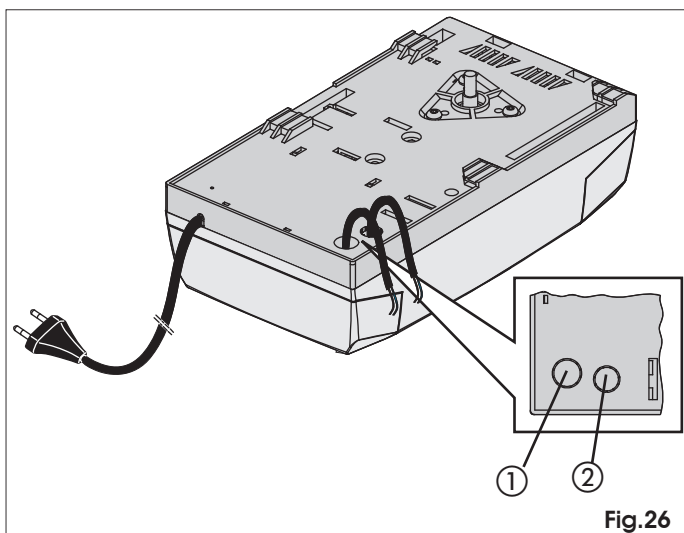

Fig.26
- To connect the external controls, safety devices and signals, break open the pre-holed element (Fig. 26 ref. ①).
- To connect the safety edge (see par. 17.3), break open the pre-holed element (Fig. 26 ref. ②).